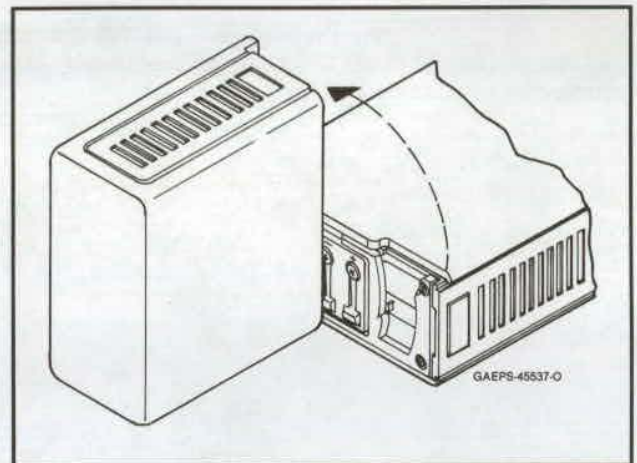
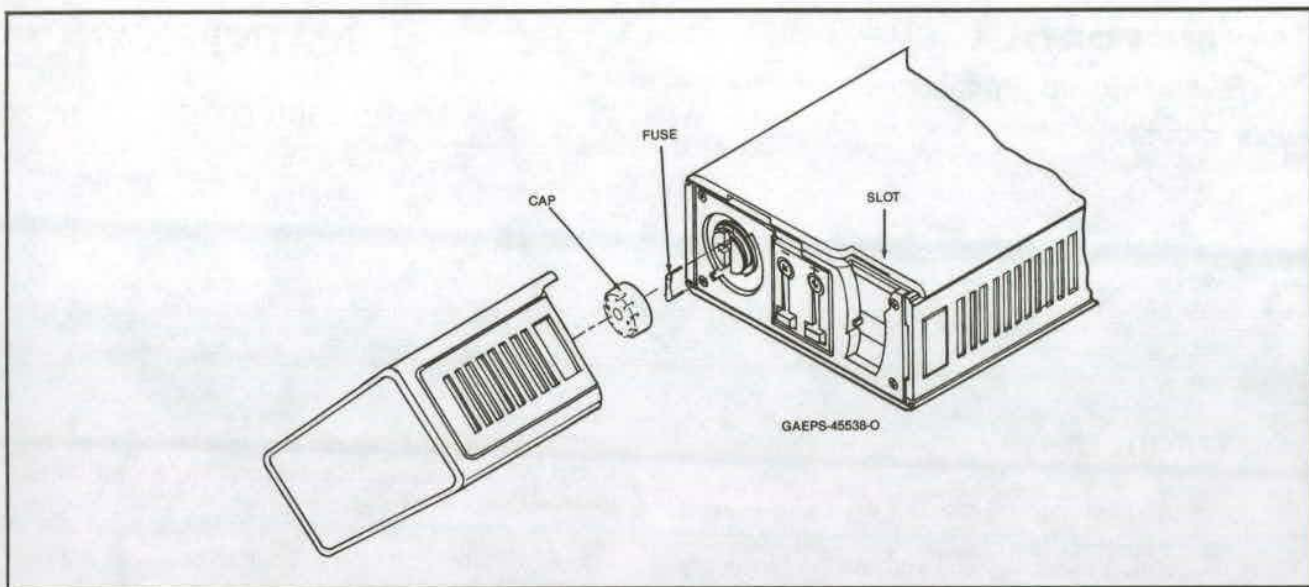

Figure 2. Battery Disengagement
Figure 3. Battery Removal/Fuse Replacement
Step 3. Rotate the battery counterclockwise as illustrated, while keeping the battery release button depressed (See Figure 2).
Step 4. Rotate the battery about 180 degrees until the cam lock is clear, and remove the battery from the unit (See Figure 2 and Figure 3).
Step 2. Unscrew the fuse cap and remove the fuse. (See Figure 3.) If the cap is difficult to remove, insert the point ends of a long-nosed pliers into the two tightening holes on the cap. Use the pliers to loosen the cap, turning in a counterclockwise direction.